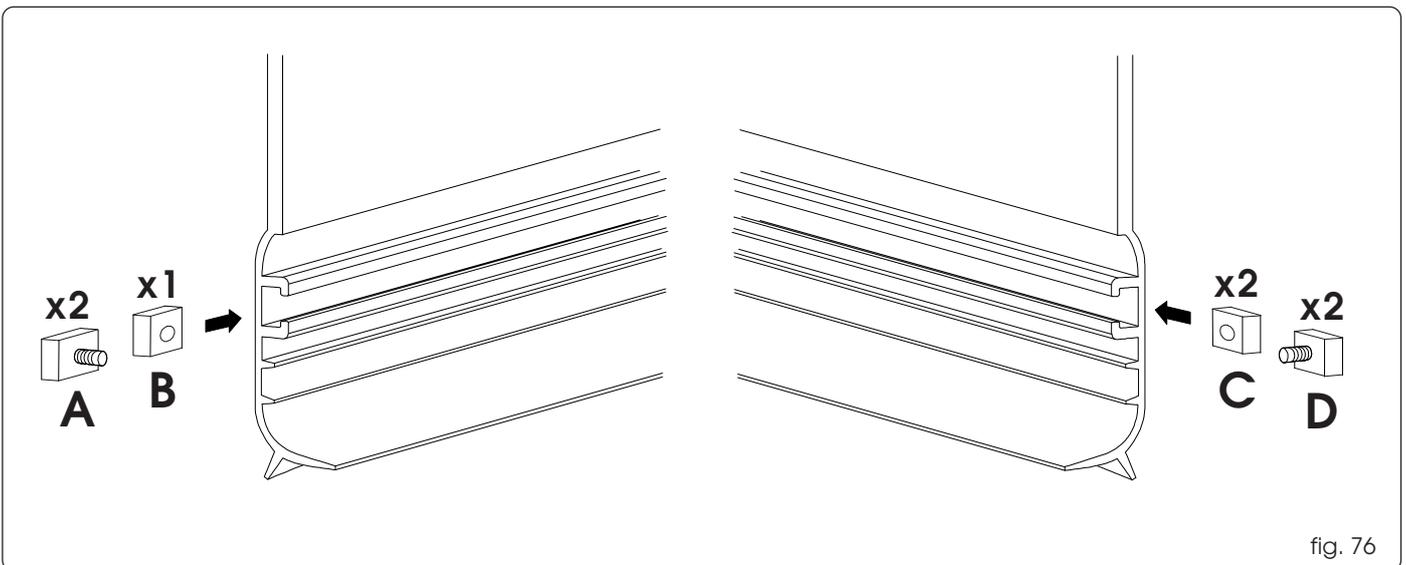
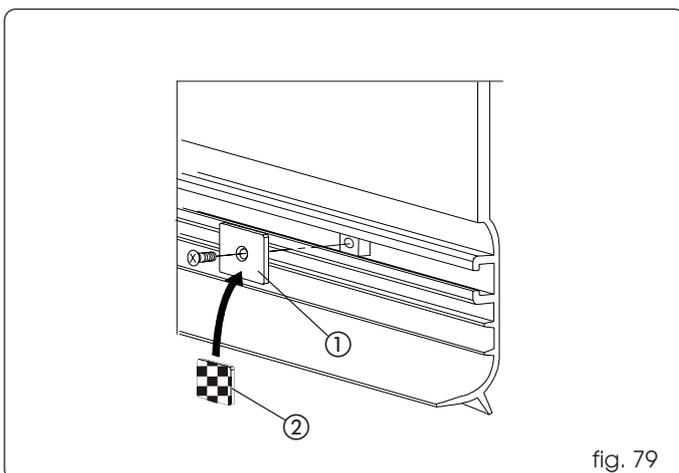
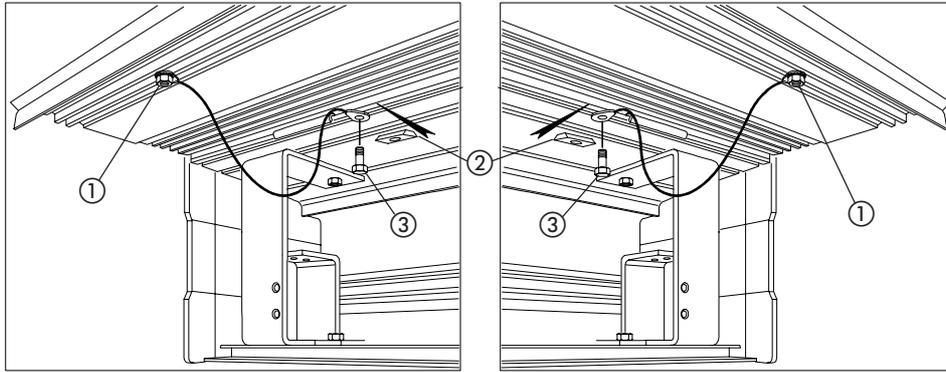
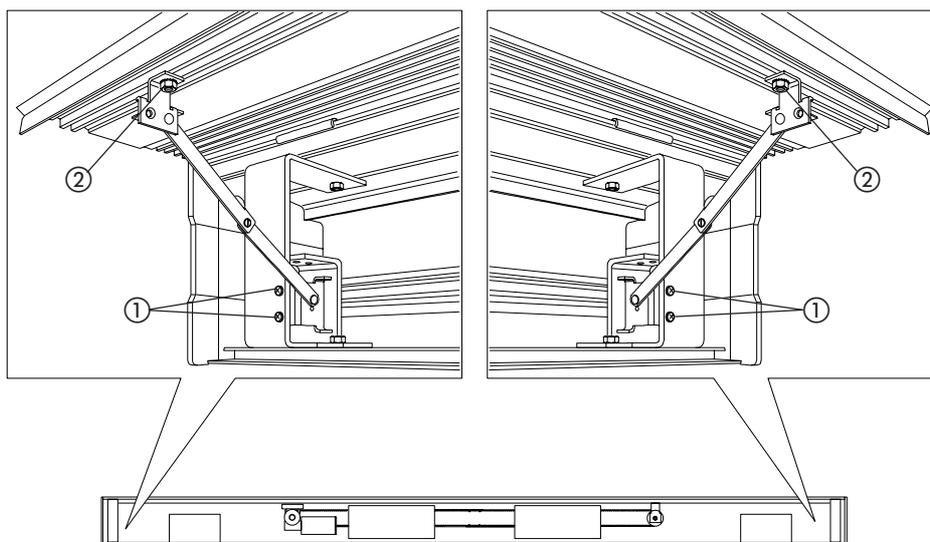

fig. 76
fig. 79
fig. 80
fig. 81
In the seat of the housing, fit the square plates and M5 stay screws, in the quantity and order shown in figure 76.
Fig.76 ref. A: 1 for parachute cable and 1 for housing support articulated lever.
Fig.76 ref. B: 1 for housing securing plate.
Fig.76 ref. C: 2 for housing securing plate.
Fig.76 ref. D: 1 for parachute cable and 1 for housing support articulated lever.
Position the metal securing plates (fig. 79 ref. ①) on the housing in line with the brackets, using the three plates fitted previously (fig. 76 refs. B and C) and the supplied screws. Only if using the standard housing securing accessories, apply Velcro on the metal plates (fig. 79 ref. ②).
Using an eyelet, secure the parachute cables to the M5 stay screws previously fitted (fig. 76 refs. A and D) on the closure housing. Secure the eyelets with the supplied nut (fig. 80 ref. ①). Insert two plates in the seat of the support profile (fig. 80 ref. ②) and secure the second eyelet with the supplied screw (fig. 80 ref. ③).
Secure the two housing support levers to the outermost housing support brackets, using the 4 supplied screws (fig. 81 ref. ①). Position the two support levers on the two outermost M5 stay screws fitted previously (fig. 76 refs. A and D) and secure them with the supplied nuts (fig. 81 ref. ②).